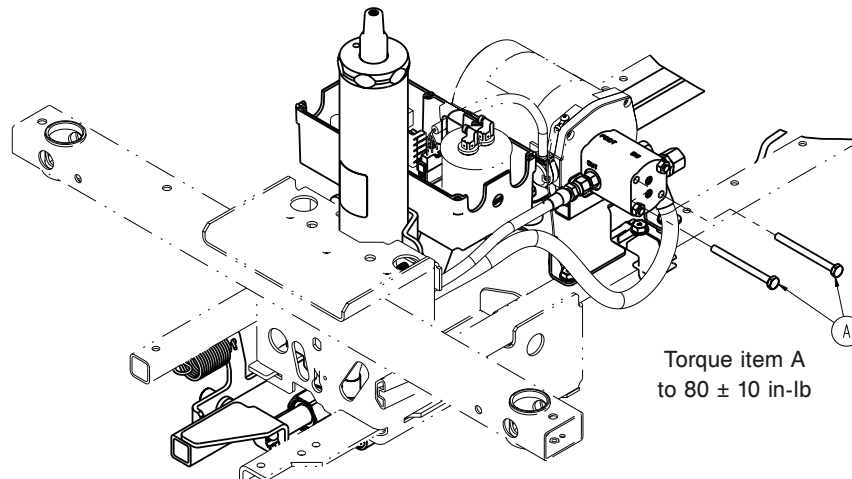

Figure 12 – Screws securing foot end pump to pump motor
6. Using a 7/16" socket with a 3/8" drive 6" extension and a 3/8" drive ratchet, remove the two hex washer head screws (A) that secure the foot end pump to the pump motor and lower the pump to the floor (Figure 12).